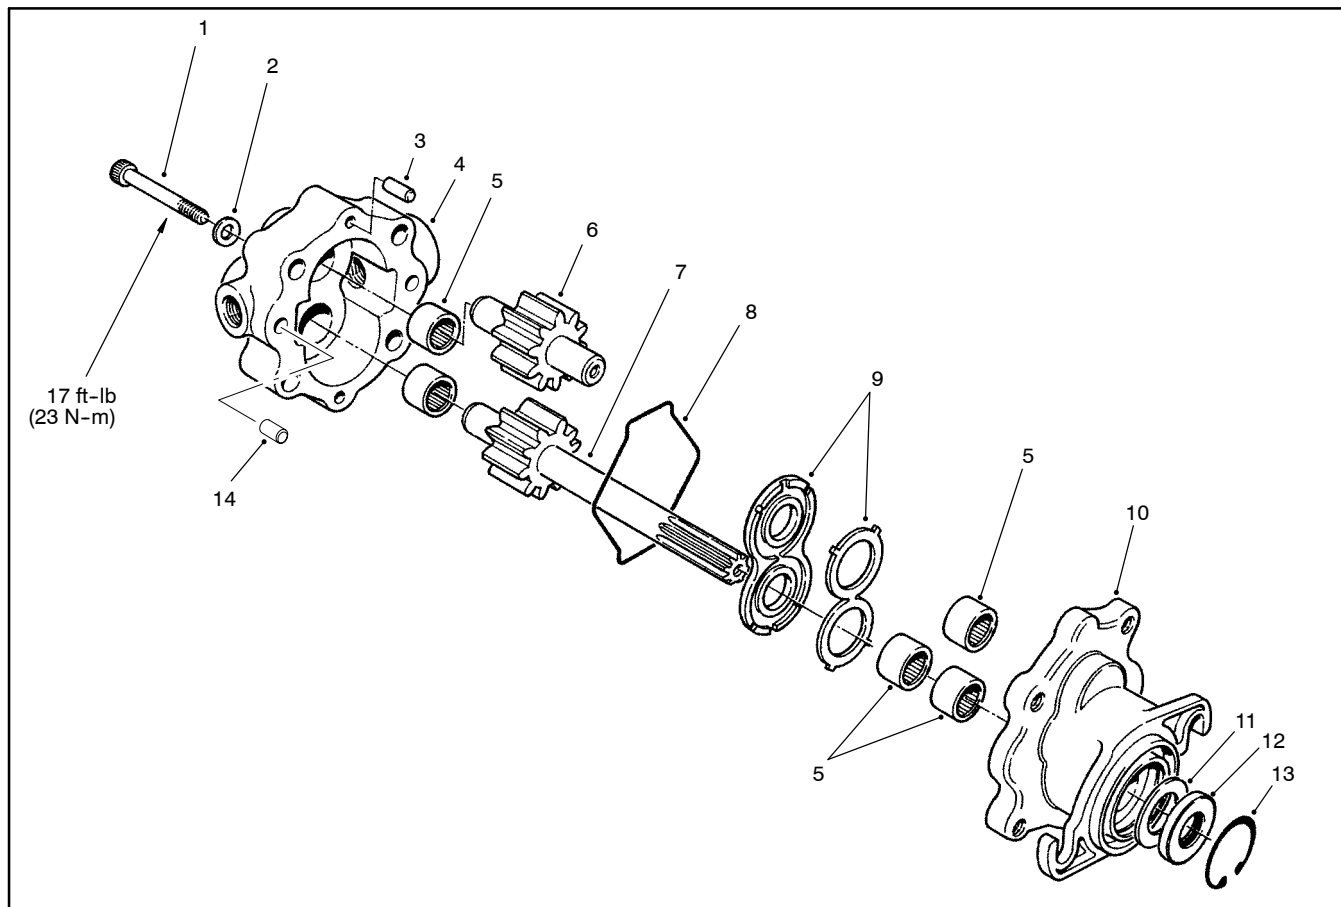

Figure 89
3. Remove retaining ring from motor (Fig. 89).